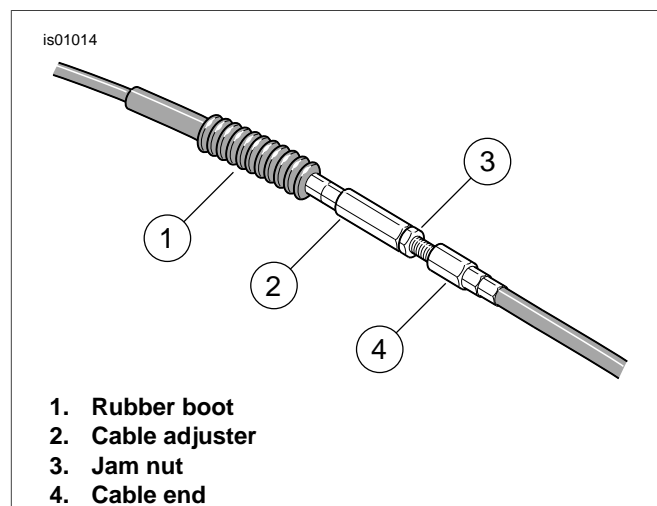

Figure 7. Clutch Cable Adjuster
2. See Figure 7. Loosen clutch cable adjuster so clutch cable is fully slack by performing the following:
- a. Slide rubber boot (1) off cable adjuster.
- b. Holding cable adjuster (2) with 1/2 inch wrench, loosen jam nut (3) using a 9/16 inch wrench.
- c. Back jam nut (3) away and turn cable adjuster (2) toward jam nut to introduce a large amount of free play at the clutch hand lever.
- a. See Figure 7. Turn cable adjuster away from jam nut until slack is eliminated at hand lever.